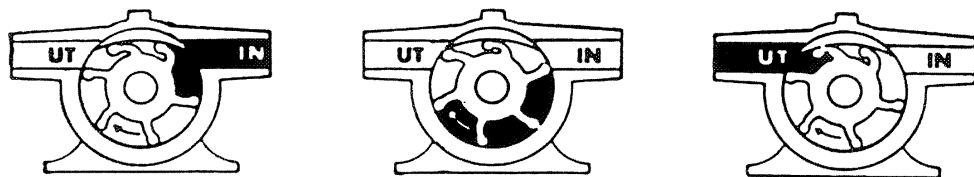

Fig. 17. Function of sea-water pump
The sea-water pump (1) is fitted on the transmission cover and is driven by the injection pump gear wheel through a dog clutch. The pump housing is made of bronze throughout. The shaft is made of stainless steel and is carried in double, totally enclosed ball bearings. The impeller is made of neoprene rubber. The function is shown in Fig. 17.